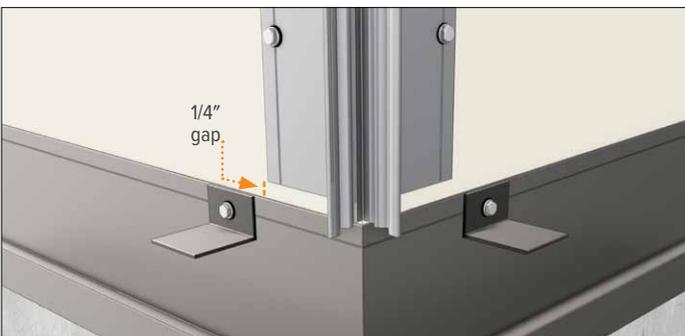

Figure 17.3
8. To install an Outside Corner, use a female corner trim and repeat steps for Inside Corner installation as noted previously. (Figure 17.3)